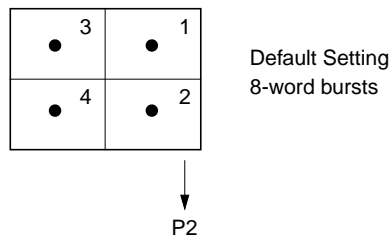

Figure 1-2 JP1 on Mother Board: Burst Size
- Figure 1-2** JP1 on Mother Board: Burst Size1-4
Jumper block JP1 (illustrated in Figure 1-2) selects the burst size used on VMEbus master transfers. These transfers are done by the on-board DMA controller. A burst can be 8, 16, 32, or 64 longwords in length. Within a burst, the EFAST board does not relinquish VMEbus mastership, so, the larger the burst size, the longer time periods that the board can exclusively hold the VMEbus. Between bursts or when a transfer is complete, the board relinquishes bus mastership only if another potential master requests it (ROR, release on request).
The Silicon Graphics factory setting (illustrated in Figure 1-2) is for 8-word bursts (polite mode). There is no need to change the default setting, but you may change it, if desired. Selecting a larger burst size results in more efficient transfers over this network connection, but also results in slower performance for other devices using the VMEbus.